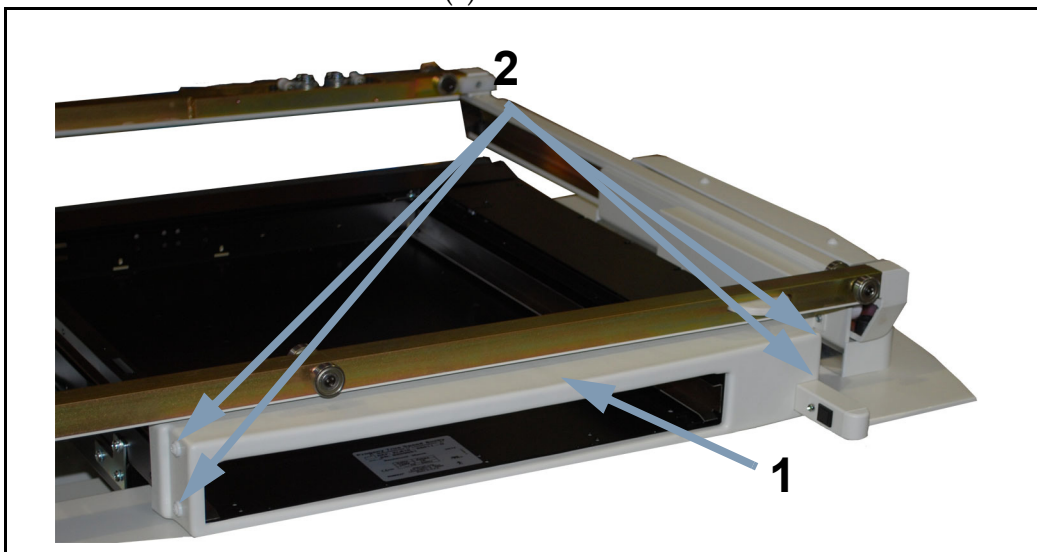

Figure 2-25. Bucky Top Covers (Grid Not Shown)
- 43** Reattach the bucky top cover (1 in Figure 2-25) and secure in place with four screws (2).